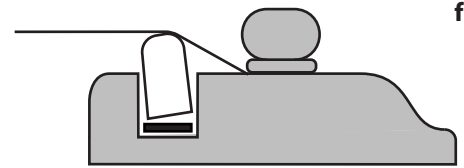

fig. 4
1. For optimum performance of this pickup, the bridge slot must have a clean, flat surface free of any debris or over-spray from the finish. The slot must be a minimum of .125" (1/8") deep but we suggest a depth of .187" (3/16") to avoid excessive saddle tilt (see figure 4).
Important: The fit of the saddle in the slot is the single most important factor in this installation. It is crucial that the bottom of the slot and the lower surface of the saddle be flat to make even contact with the pickup. The saddle should fit in the slot loose enough to be able to be just pulled out with your fingertips. If it is too tight or binds at all, this will have a negative effect on the string balance. Likewise, if the saddle is too loose, it will have a substantial forward tilt when under string pressure, causing it to make poor contact with the pickup (see figure 4).